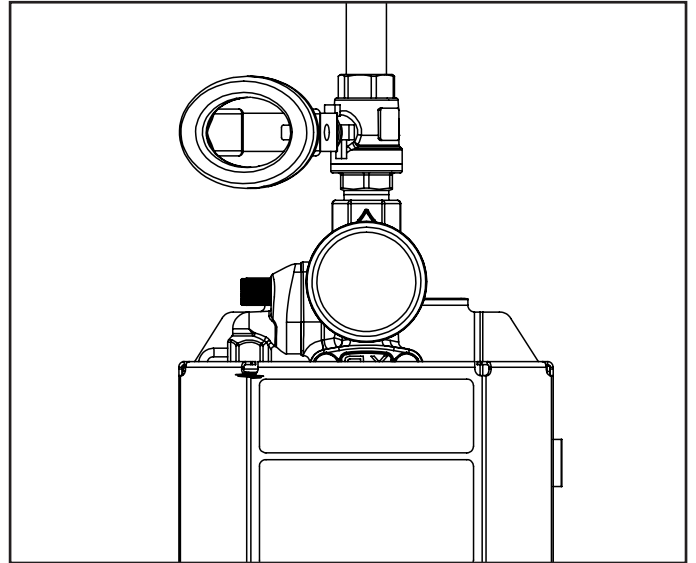

Fig. 6.1: Water supply ball valves closed.
1. Ensure unit is properly connected and the water valve is closed [Fig. 6.1]